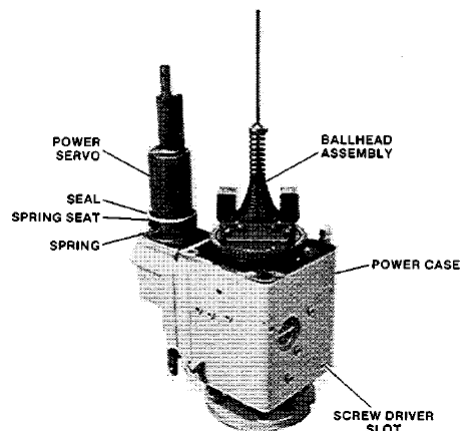

Figure 5-17. Power Case and Power Servo
19. Lift ballhead assembly out of power case (Figure 5-17).
20. Remove spring, spring seat, and seal (Figure 5-17).
24. Turn power case upside down, remove 8 screws and lift off base (Figure 5-17).